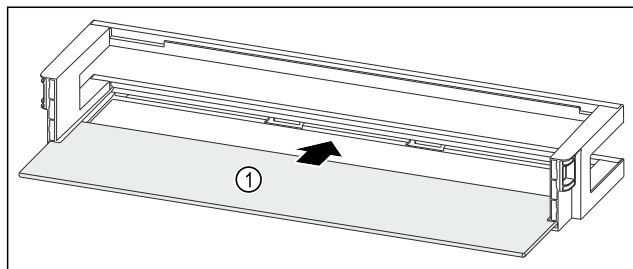

Fig. 98 Door rack with shelf
- Push the shelf Fig. 98 (1) into the side recesses.